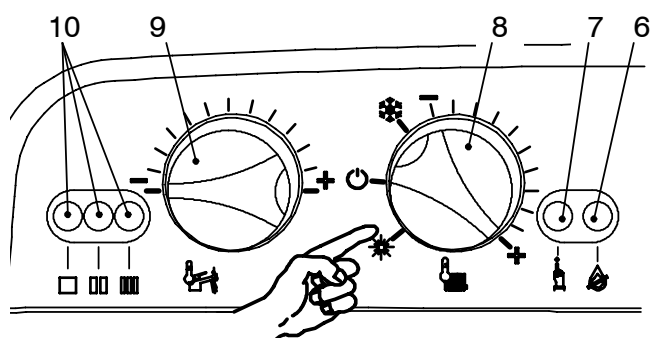

Fig. 7.5
- 3 Turn the boiler ON positioning the control selectors 8 in the positions as shown in as in Fig. 7.5 and ensure that the timer selector switch and room thermostat, if fitted, are set to "heat demand".